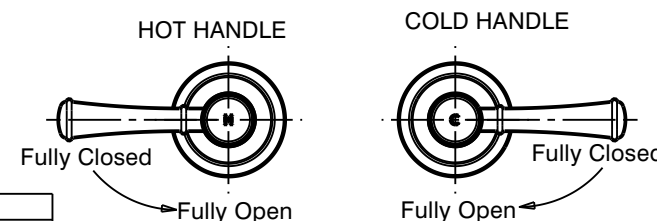

Fig. 2
- 4) Remove locknut (5), cap (4) and fibre washer from cartridge (3). Screw cartridge (3) into tap body (1). Using a suitable spanner, tighten cartridge (3) until it comes to a firm stop. (DO NOT TIGHTEN CARTRIDGE USING SPINDLE). Fit fibre washer and then locknut (5) and tighten using a suitable spanner.
- 5) Ensure handle insert (13) is in position in handle (14). With cartridge spindles in the fully closed position, position handles (14) as shown in Fig. 2 before pushing handle (14) fully onto spindle (6). For small adjustments to handle positions, cartridge (3) can be rotated slightly in an anti-clockwise direction until handles are aligned as shown in Fig. 2 before tightening locknut (5). Remove handles (14).
- 6) Ensure 'O'-rings (7) are fitted into groove of cartridge spindle (6). Screw on flanges (9) to each locknut (5) and tighten securely by hand, taking care not to damage decorative finish. Fit trim sleeves (8) over each cartridge spindle (6) and push them down until they seat on cartridges.
i) Turn both spindles (6) to the fully closed position.
iv) Ensure handle insert (13) is in position in handle (14). Fit handle (14) to spline of spindle, position handle as shown in Fig. 2 before then push firmly down until it bottoms internally.
v) Screw retaining nut (11) into handle and tighten with spanner (10) provided.
- 8) Check that threaded nipple (15) is the correct length, as shown. Cut to length if required ensuring end face is square. Apply thread tape to the thread. **Important:** Care must be taken that thread tape cannot become dislodged and block the flow regulating device, causing a reduction in water flow.
- 9) Slide the cover plate (16) (fitted with the seal) over the outlet (17) as shown. Carefully screw the outlet (17) onto the threaded nipple (15) until the threaded end is close to the wall/tile face and the aerator insert (18) is pointing down as shown, taking care not to damage the decorative finish. **DO NOT OVERTIGHTEN.** Push the cover plate (16) along the outlet (17) until it contacts the wall/tile face.